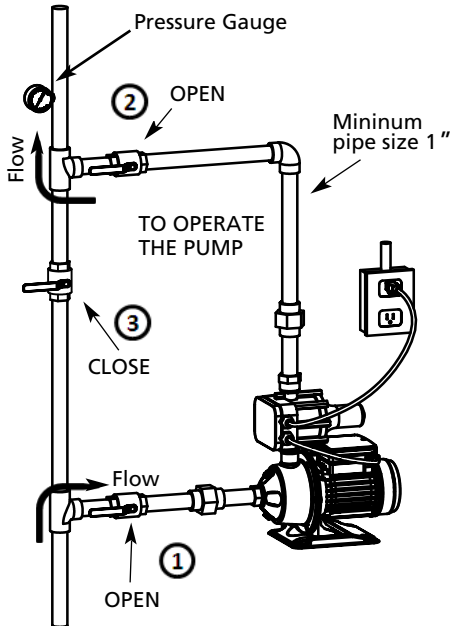

Figure 2 – Typical household booster installation.
If not already in the plumbing system, install a pressure relief valve in the pump discharge line capable of passing the full pump flow at 100 psi (689 kPa) (See Figure 2, page 5). If local code requires installation of a pressure relief valve capable of handling the full pump
8. Install the pipes in the main water supply line. See Figure 2.
10. To use this pump for pressure boosting, read the above instruction carefully, then connect the pump to your water supply as the picture (Figure 2)
14. Set the ball valves as picture(Figure 2) Open the nearest faucet and connect the pump to an electrical outlet
⚠ WARNING *Hazardous voltage. Risk of dangerous or fatal electric shock. Plug the pump into a 115 Volt, 60 Cycle, Ground Fault Circuit Interrupter (GFCI) protected grounded outlet only. The pump is equipped with a 3-wire grounded cord and plug. Do not modify or remove the plug. Make sure the outlet meets the National Electric Code or the Canadian Electrical Code, as applicable. To avoid dangerous electrical shock hazard, keep the cord dry at all times. See Figure 2, page 5.*